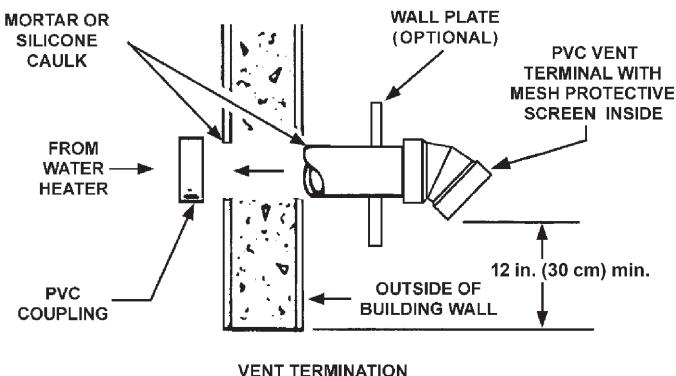

Figure 16. Sidewall Vent Termination
5. Slide the pipe through the wall and insert into the coupling on the other side of the wall, making sure that the vent terminal ends up pointed in the correct position. See *Figure 16*.
It is recommended that the completion of the venting system start at the blower assembly and run to the coupling on the inside wall of the vent terminal. See *Figure 16*.
The preferred orientation of Vent Pipe Assembly #1 (Condensate U-Assembly) is shown in Figure 16. However this assembly may be rotated to a different orientation as needed for the specific installation requirements. Note the rotational orientation of each part by marking a line several inches long across the joints. The long tube of Vent Pipe Assembly #2 should be approximately vertical. If it is found that either of the two pieces of pipe in Vent Pipe Assembly #2 are too long for proper fit-up, then remove as little material as possible to improve the fit-up. Keep in mind that the pipes will insert slightly further into the elbows when cement is applied as it acts as a lubricating agent. The vertical distance from the bottom of the Condensate U-Assembly to the floor that supports the water heater should be approximately 0.25" (0.64 cm). See *Figure 25* (page 28). Disassemble the parts and cement back together using the alignment marks. After the cement dries, attach the assembly to the blower and the water heater exhaust using the supplied rubber boots and hose clamps.